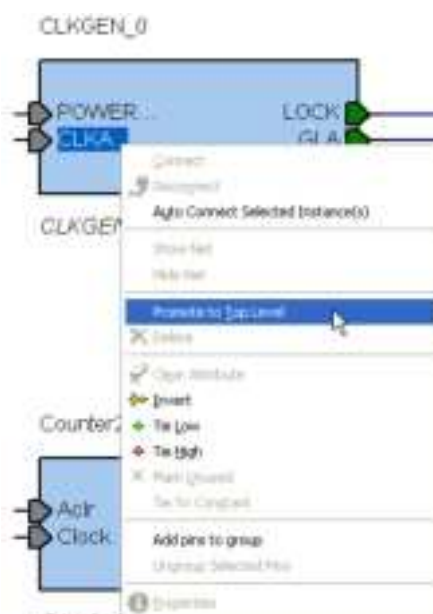

Figure 1-17 • Connect CLKGEN_0:CLKA to Top Level
12. Right-click the **CLKGEN_0:CLKA** port and choose **Promote to Top Level** (Figure 1-17) to connect the port to the top level. This port will be connected to a dedicated input pin on the AGLN250 FPGA.